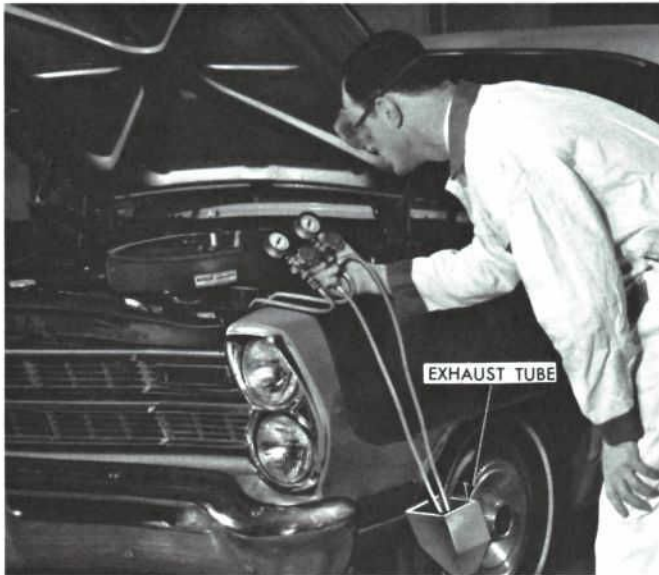

Fig. 29 — Discharging the Refrigerant
2. Connect a discharge hose (Fig. 29) to the T-fitting at the center of the manifold and put the other end into an exhaust outlet.